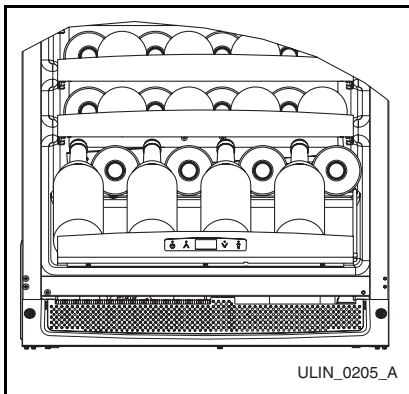

Figure 6
1. The wine racks should be stocked beginning with the lowest rack, at the back, and working forward. Stagger the bottles as shown (**Figure 6**).